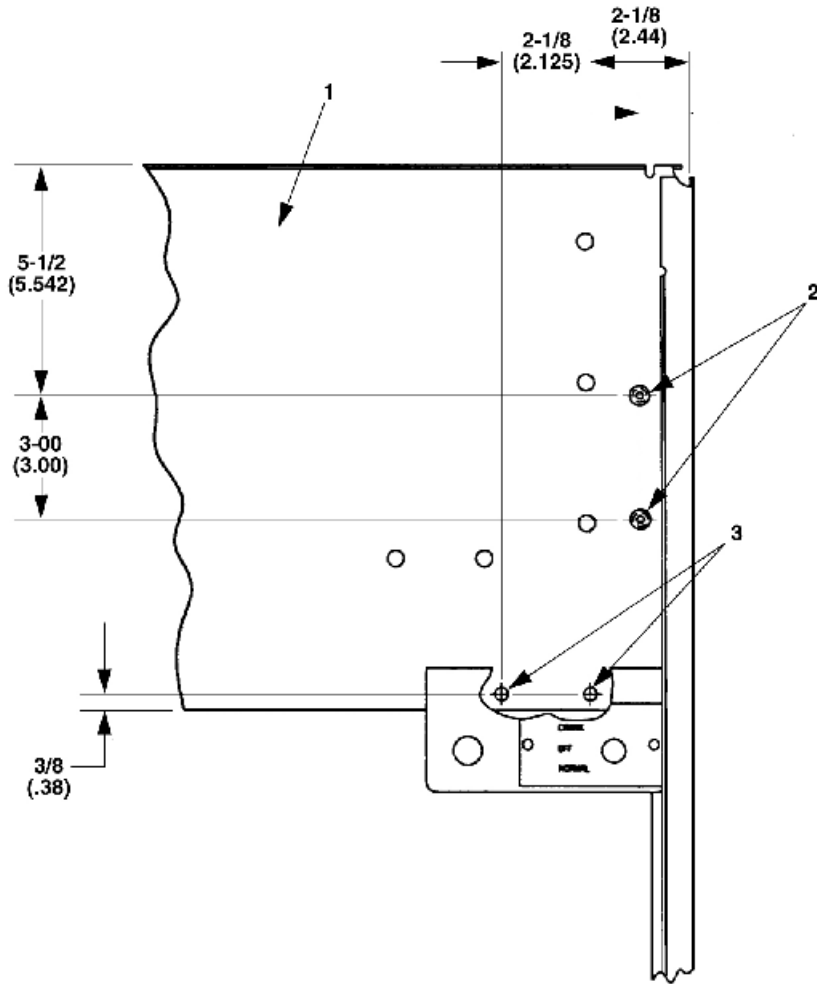
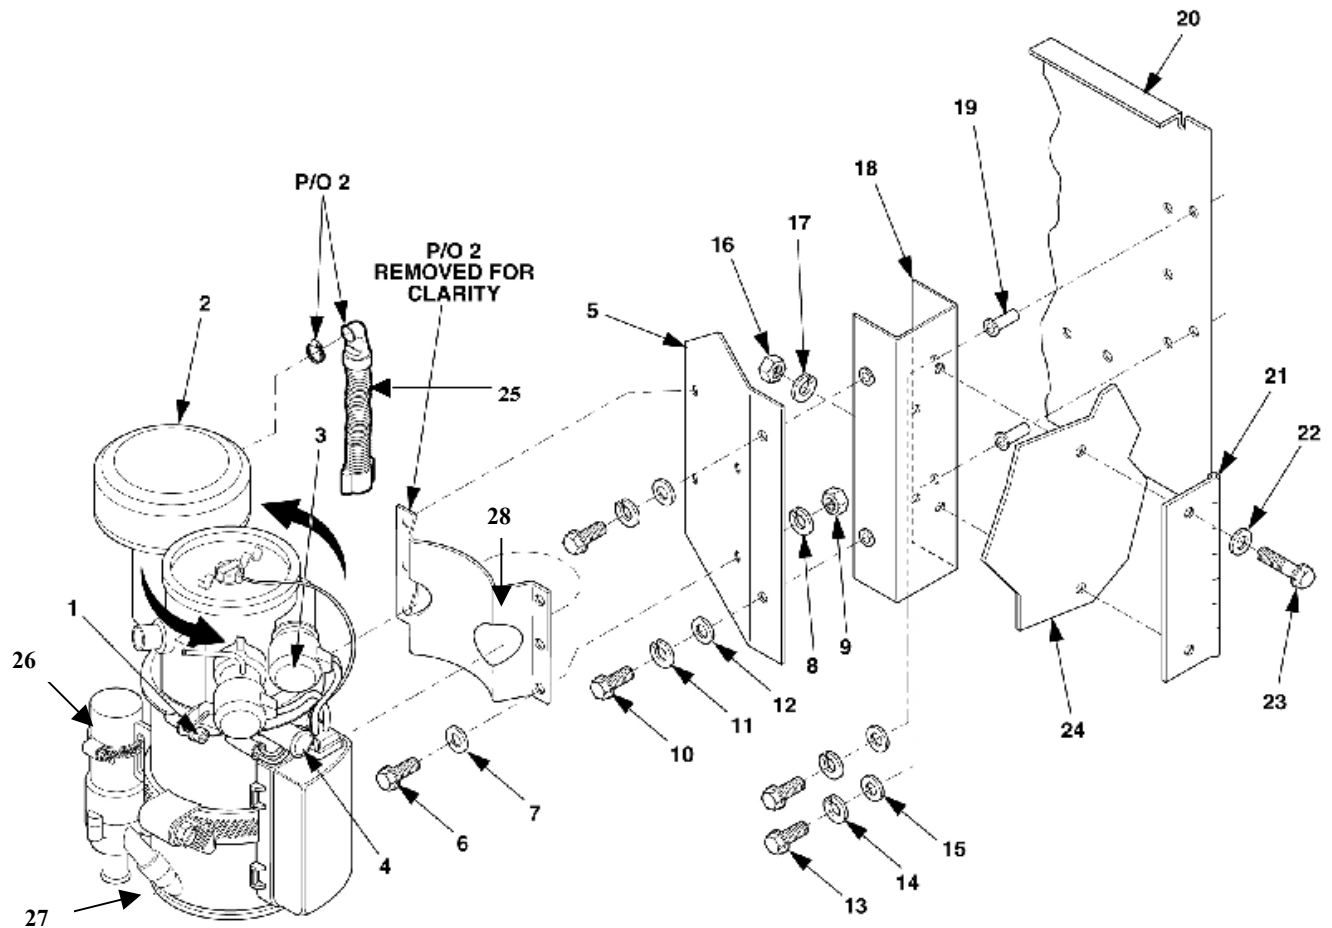

Figure 5-3. Bulkhead Housing.
Figure 5-4. Heater Assembly.
11. Remove dead crank switch bracket (4), Figure 5-3, from center bulkhead housing. Retain hardware for reinstallation in accordance with TM 9-6115-641-24. Retain hardware for reinstallation.
12. Drill four 9/32 inch diameter holes (2 and 3) in center bulkhead housing (1).
13. Install dead crank switch bracket (4, removed in procedure 11) in holes (3) with screws, flat washers, and lock washers.
14. Loosen the heater head retaining screw (1), Figure 5-4, part of (2), and rotate the glow plug assembly (3), until the right glow plug is above the coolant outlet (4), and tighten.
15. Loosen the heater holding clamp bracket (28), part of (2), and rotate the “black” heater shell bracket approximately 1 ½ inch space from the heater water pump. Do not retighten the clamp.
16. Install the heater (2), on the heater mounting plate, (5), using screws (6), flat washers (7), lock washers (8), and nuts (9).
17. Attach the heater air inlet flexible hose (25) to the heater water pump (26) using existing cable tie provided with heater, (2). Ensure the inlet hose (27) does not interfere with the heater mounting bracket.
18. Remove the hinges (21) and associated hardware from the generator set.
19. Install blind rivet nuts (19) in holes on bulkhead housing (20). See holes (2) in Figure 5-3.
21. Install the wall mounting plate bracket (18), Figure 5-4, on the inside of the center bulkhead housing using screws (13), flat washers (14), and lock washers (15) into rivet nuts (19).
23. Install the top hinge (21), on the outside of the center bulkhead housing (24), using screws (23), flat washers (22), lock washers (17), and nuts (16), removed in procedure 18.
24. Install the heater/mounting plate assembly (5) to the wall mounting bracket (18), using screws (10), flat washers (11), and lock washers (12).